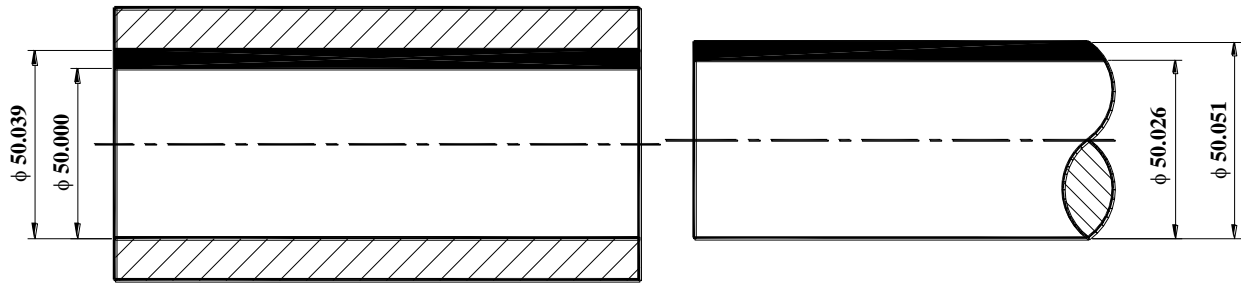

FIGURE T5.4
6.6. SUGGEST SUITABLE FITS AND THEIR LETTER AND TOLERANCE GRADES FOR THE COMPONENTS SHOWN IN *FIGURE T5.4*.